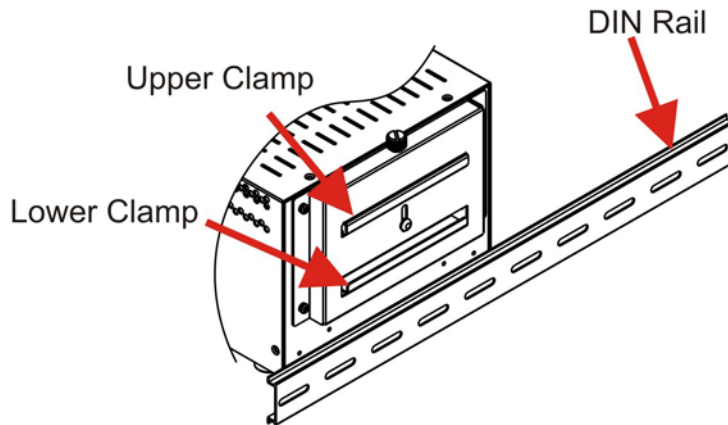

Figure 4-16: Mounting the DIN RAIL
Step 3: Place the DIN rail flush against the back of the mounting bracket making sure the edges of the rail are between the upper and lower clamps (Figure 4-16).